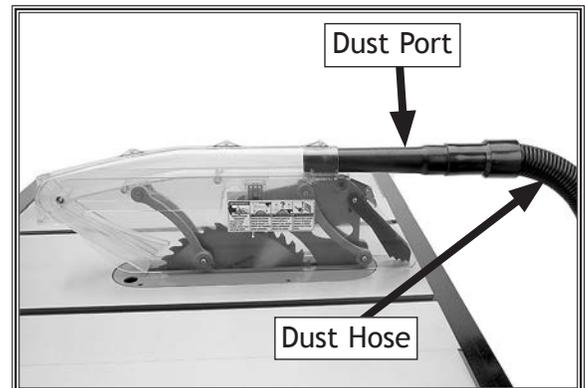

Figure 54. Dust port and dust collection hose installed on blade guard.
8. Install blade guard dust port and dust collection hose, as shown in **Figure 54**, and attach hose to dust collection port on table saw body (refer to **Page 28**).